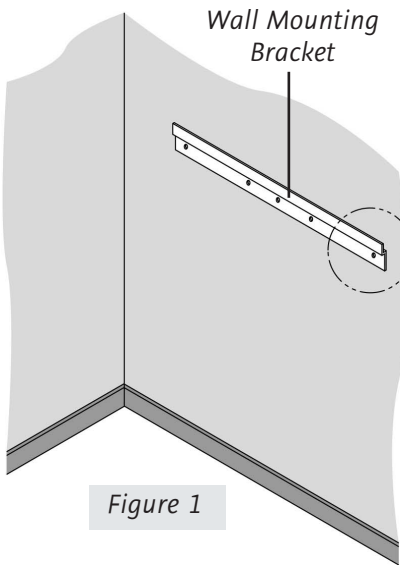

Figure 1
- 1** Attach the Wall Mounting Bracket to the wall (*Figure 1*), using hardware appropriate for the wall structure. (This hardware is not included.)